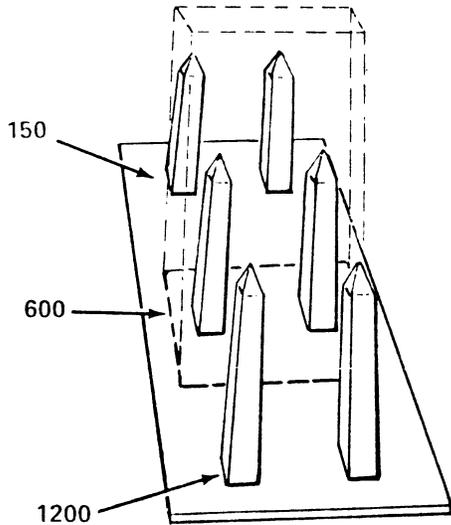
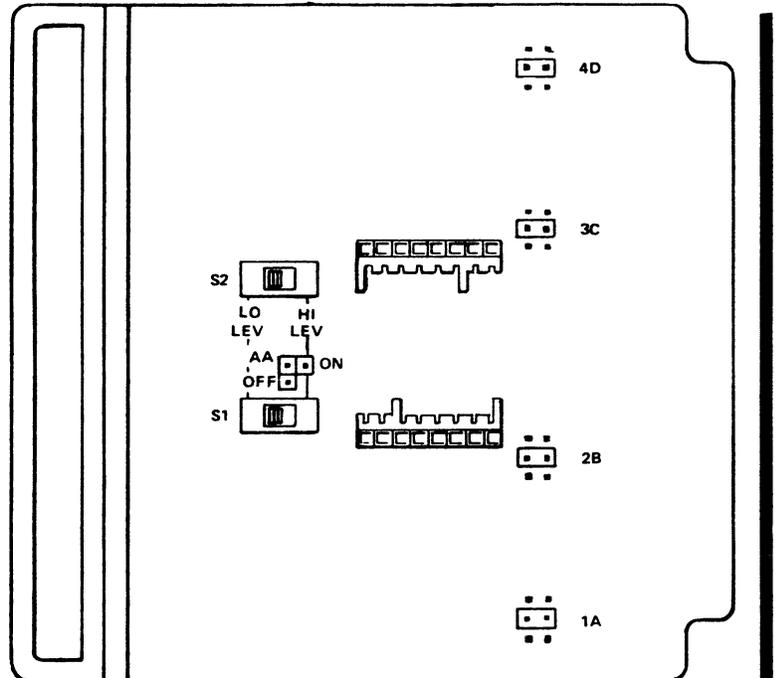
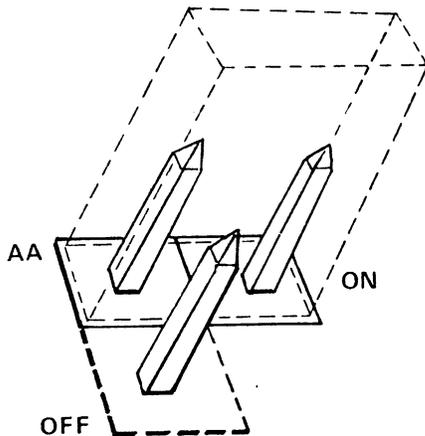

Figure 3. Transformer Plug-in Option for Transformer Impedance Biasing
Figure 5. Option and Connector Locations and Positions
Figure 4. AA Option in ON Position
1.02 This Practice has been reprinted to correct an error which appears in Figure 5 of the first printing. Significant changes are indicated by a change bar (█) in the margin adjacent to the affected copy.
6.01 The 401 is provided with plug-in options (Figures 3, 4, and 5) for 150-, 600-, and 1200-ohm input and output impedences (factory set for 600 ohms). Another plug-in option, AA, is in the OFF position when used with a plug-in receive equalizer; otherwise, it should be in the ON position (factory set for ON). There are two switches, S1 and S2, for setting high and low gains in the receive and transmit amplifiers.
6.04 Figure 3 shows a typical transformer option terminal block on the 401 Issue 5, and Figure 4 shows the terminals of the AA option. Figure 3, strapped for 600-ohm line impedance, is shown with a dotted line to indicate a seated option. Figure 4 shows the AA option in the ON position, which would bypass the subassembly. Figure 5 shows the locations and factory set positions of the plug-in and switch options on the 401 Issue 5.